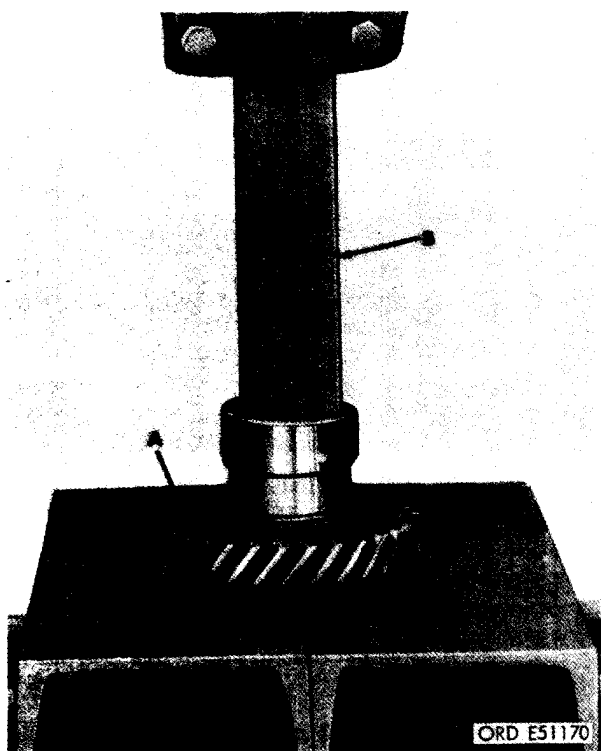

FIGURE 356. INSTALLING IDLER GEAR BALL BEARING IN OIL PUMP IDLER GEAR.
- (1) Gears. Inspect the oil pump idler gear EE as directed in paragraph 153e, for damaged gear teeth and scored bearing surfaces. Check bearing bore against limits specified in repair and rebuild standards (par. 293).
- (2) Ball bearing. Refer to TM 9-214 for inspection, care, and maintenance of ball bearing (DD). Inspect bearing for looseness of roughness. Check bearing against limits specified in repair and rebuild standards (par. 293).
d. Repair. Replace oil pump idler gear (EE) if it is cracked, chipped, or when it does not meet limits specified in repair and rebuild standards (par. 293). Replace unserviceable ball bearing (DD). Replace damaged retaining ring (AA).
e. Assembly. Figure 356. (A) Position oil pump idler gear on press plates with bearing retaining ring groove in gear up. (B) Install idler gear ball bearing in oil pump idler gear using a suitable pressing arbor the same diameter as bearing outer race. Install oil pump idler gear bearing retaining ring (fig. 354).